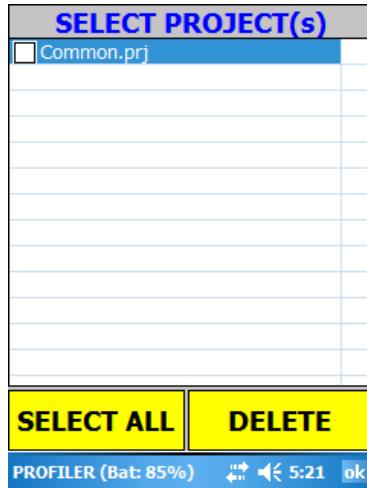

Figure 69: Select Project Folder menu.
1. To select the appropriate Project folder, tap **Project**. The PDA will then display the stored project folders (Figure 69).